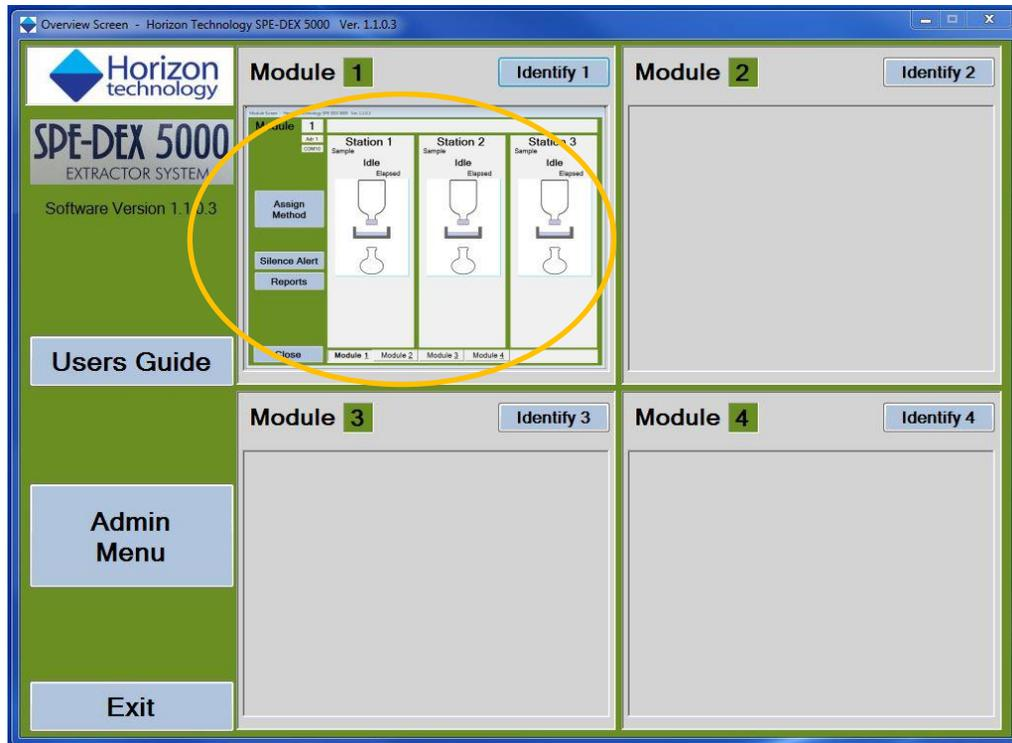

Figure 6-14. Selecting Module 1
- Step 8:** Once the Disk Holder Assembly and the WIV with bottle are in place, click anywhere in the Module identification area (Module 1, circled in Figure 6-14).